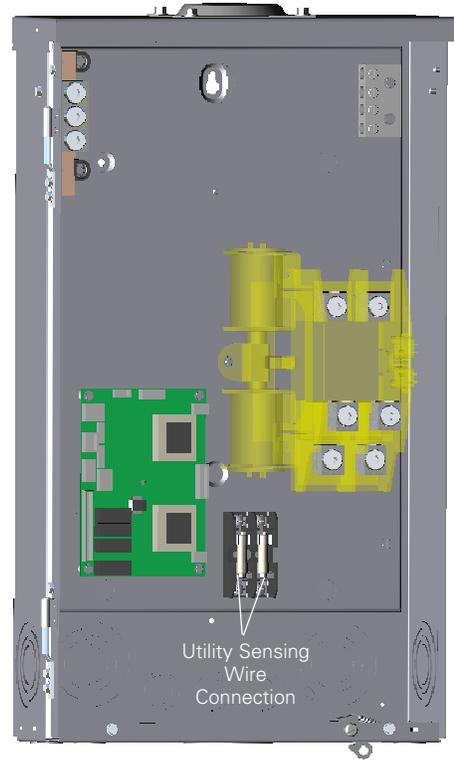

Figure 12. Generator Utility Sensing Wires Connection.
Step 2: If your generator requires utility power for engine start sensing then the generator utility sensing connections are located on the fuse block that is installed at the bottom of the power panel (see Figure 12). The utility sensing wires, required for proper generator operations, are connected at this point. See Section 4.7 for more detailed information on connecting the generator utility sensing wires.
This ATS is intended for use on generators with built in auto start features. These generators sense, and react to, utility power (see Figure 12). This ATS may also be used with generators that require open type remote starting contacts. One set of normally open contacts and one set of normally closed contacts are supplied